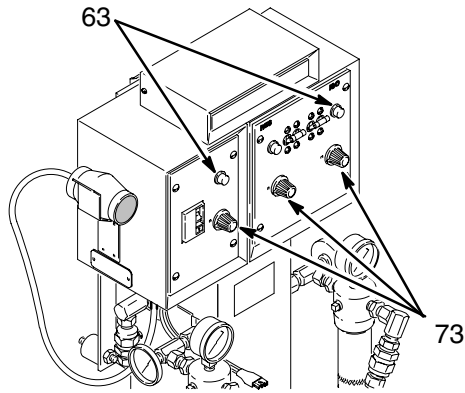

Fig. 22
ELECTRIC SHOCK HAZARD Be sure the heater and heated hose circuit breakers (63) are shut off to reduce the risk of electric shock. See Fig. 22, page 18.
4. Start the heaters. See Fig. 22.
- a. Set all three Temp Set dials (73) to “cal” position, approximately 120°F (49°C).
- b. Turn the circuit breakers (63) to “I” for ON.